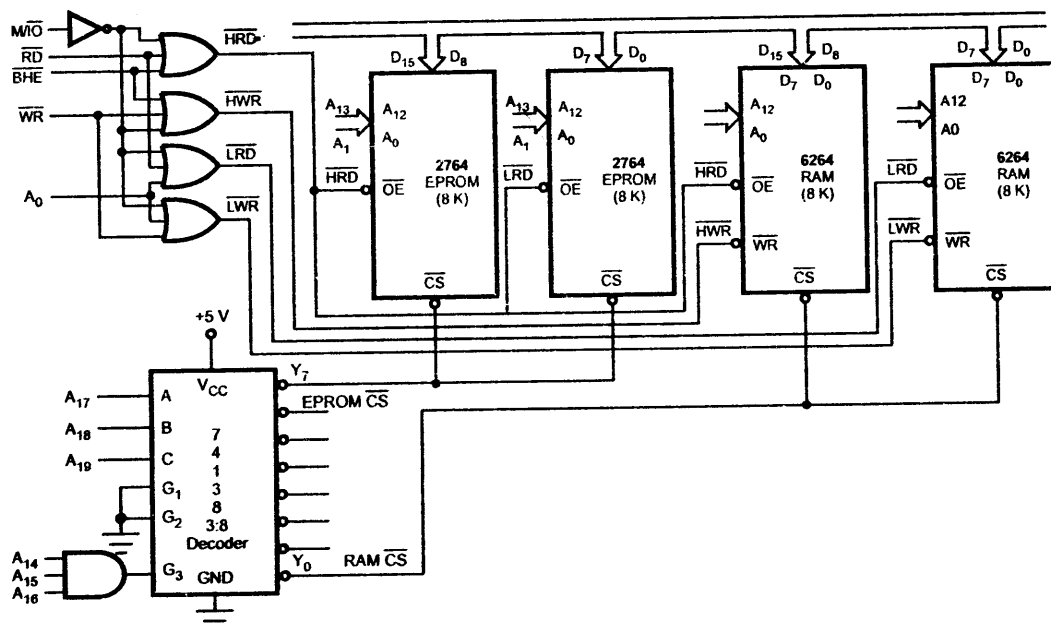

Fig. 8.5 Block decoding
**3) Block Decoding :** In a microcomputer system the memory array is often consists of several blocks of memory chips. Each block of memory requires decoding circuit. To avoid separate decoding for each memory block special decoder IC is used to generate chip select signal for each block. Fig. 8.5 shows the block decoding technique using 74138, 3:8 decoder.